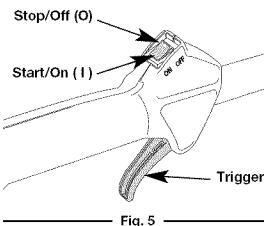

Fig. 5
NOTE: There is no need to turn the unit on. The On/Off Stop Control is in the ON (1) position at all times (Fig. 5).
- Press the On/Off Control switch in the OFF (O) position and hold until the engine comes to a complete stop (Fig. 5).